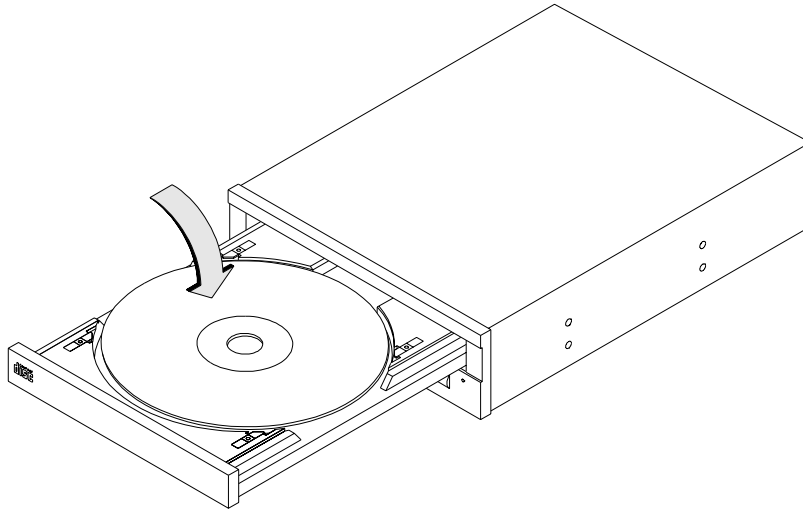

Figure 8-3
- 4** Hold the disc by the edges with the label side up and place it in the disc tray as shown in Figure 8-3.